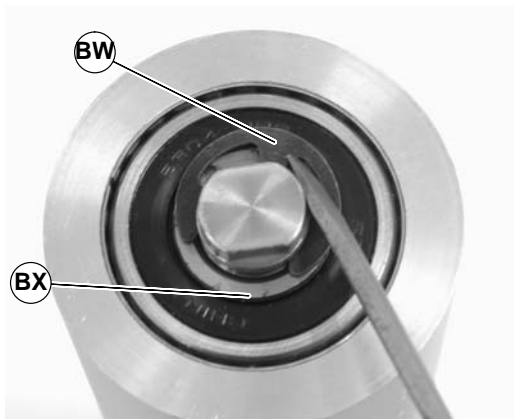

Figure 73
- Remove the pulley shaft assembly: remove the clip ring (BW of Figure 73) and washer (BX) from one side of the pulley assembly.